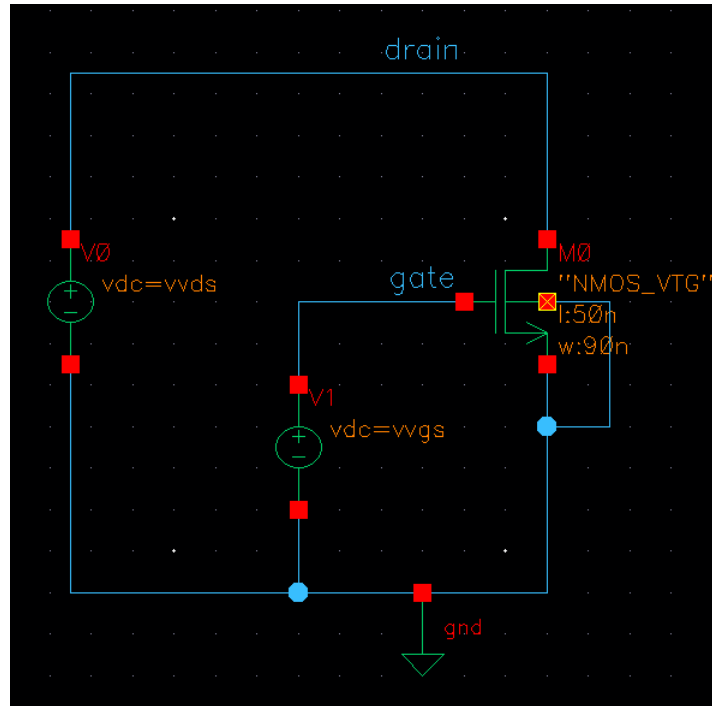

Figure 10: Schematic for NMOS DC sweep simulations
In this section, we will create schematic view for NMOS transistor simulation as shown on (Figure 10) and simulate it to generate its I/V curve.
7. Your schematic after above steps should now look like Figure 10.